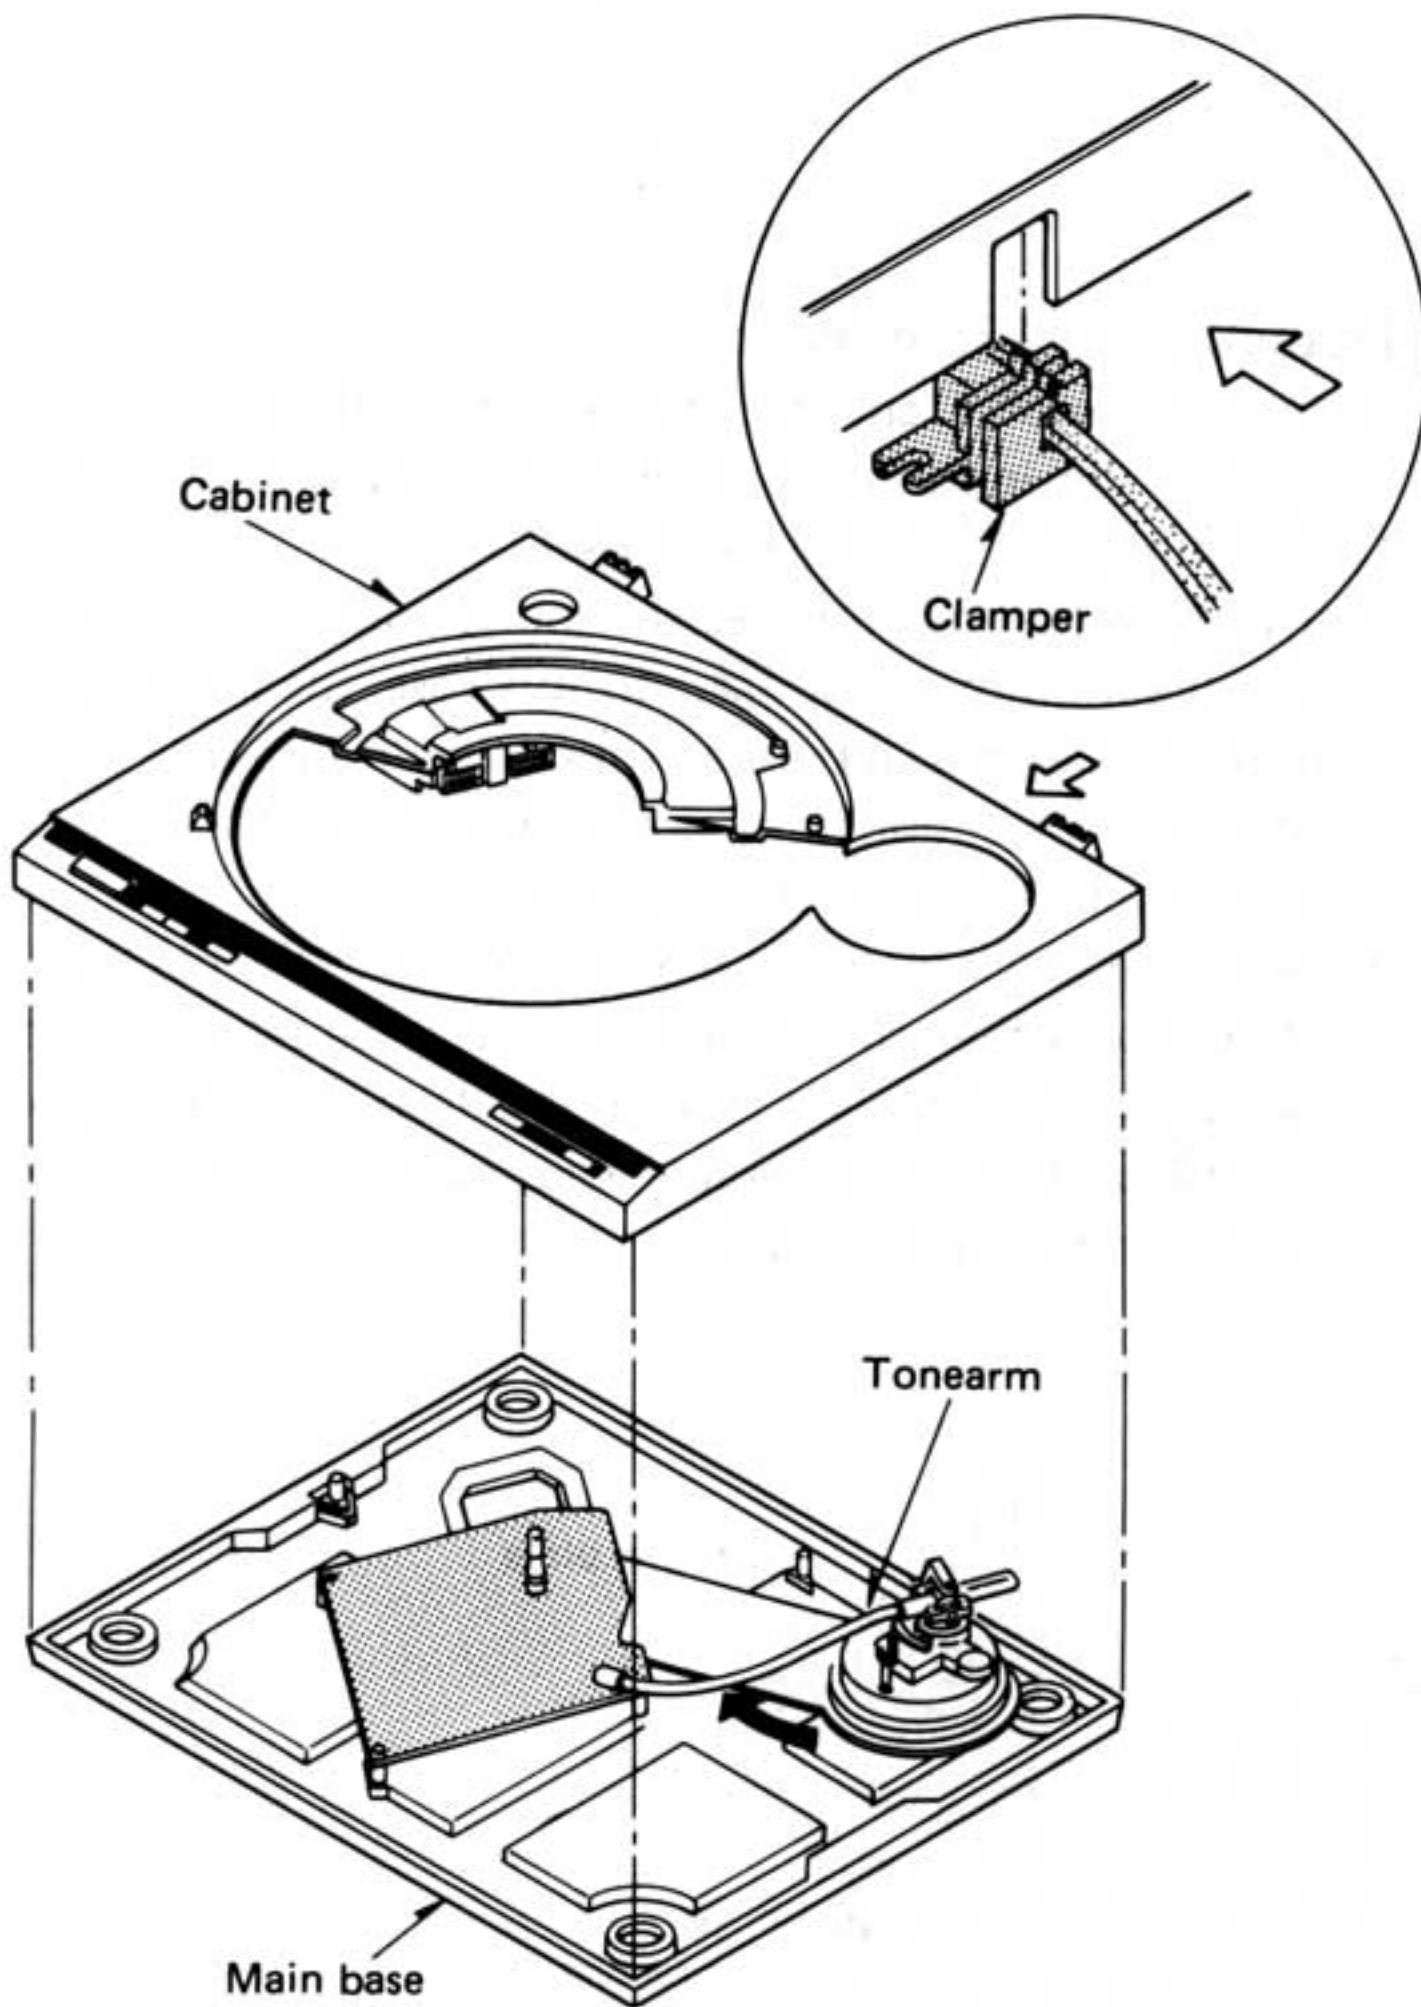

Fig. 3
10. Remove the tonearm from the rest, shift the tonearm inward, and lift the cabinet. Then, the main base and cabinet can be disassembled. (See Fig. 3)